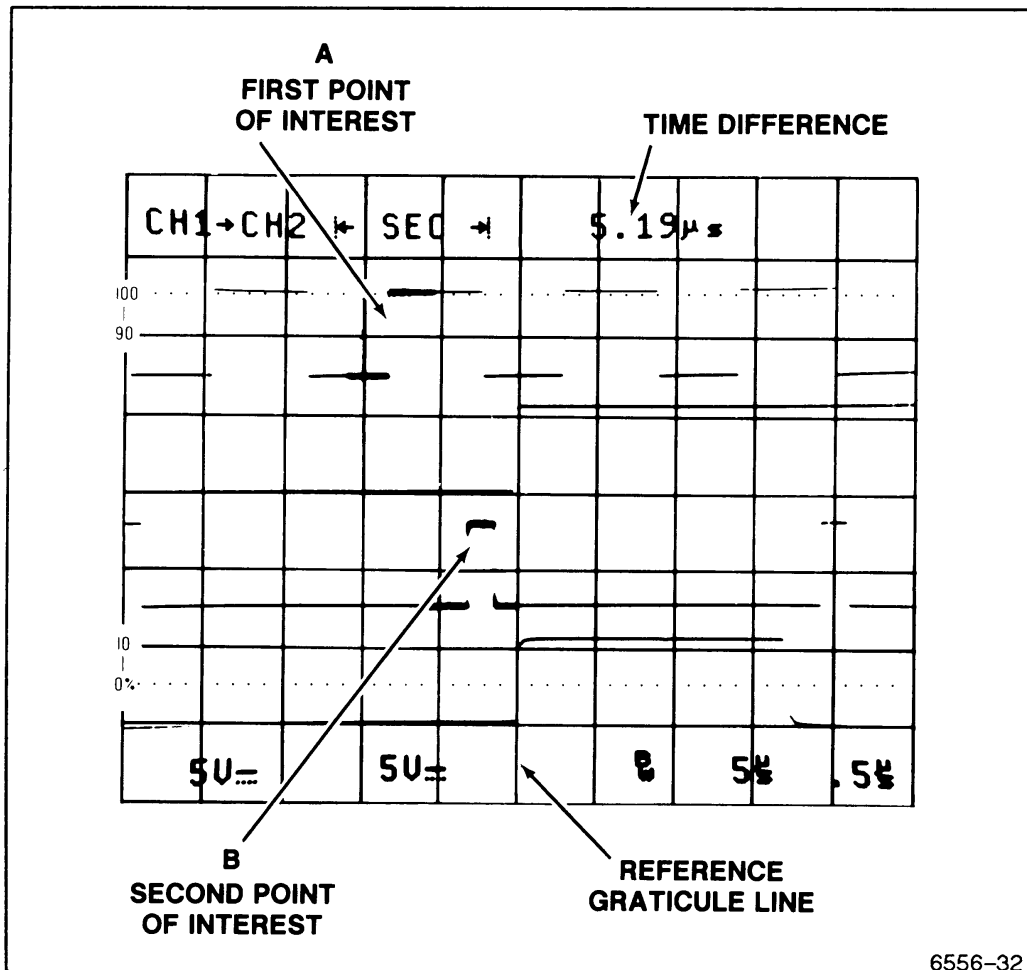

Figure 5-6. Time difference between the two delays.
7. Set the ← OR DELAY control so that the reference-delay intensified zone is positioned at the first point of interest (point A, Figure 5-6) and the B sweep display of that point is at the center vertical graticule line.
8. Set the → control so that the delta-delay intensified zone is positioned at the second point of interest (point B, Figure 5-6) and the B sweep display of that point is at the center graticule line. The time difference between the two points of interest is displayed at the top of the screen.